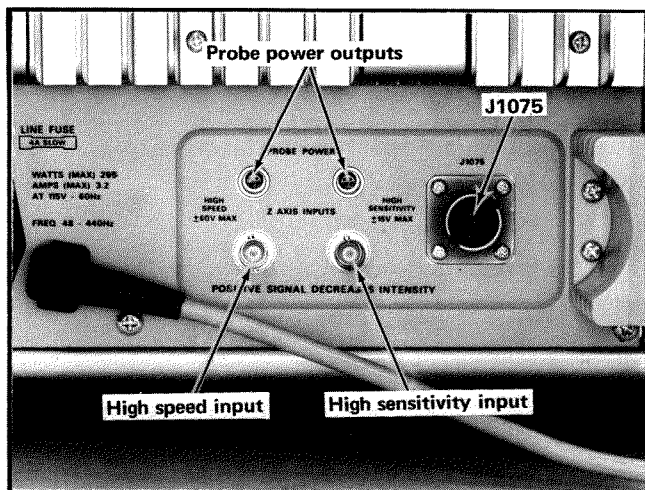

Fig. 5-11. Location of Probe Power outputs, Z Axis Inputs and J1075.
b. Remove the coaxial cable from the High Sensitivity Z Axis Input connector and connect it to the High Speed Z Axis Input connector (see Fig. 5-11).